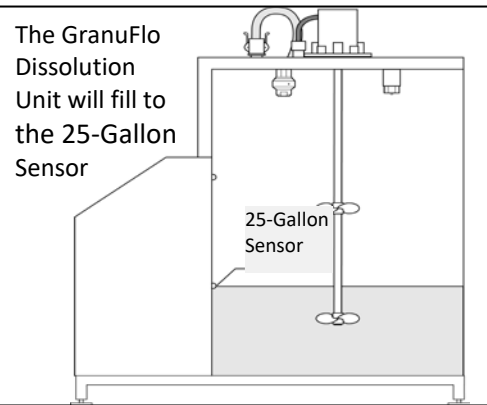

Figure 20
3. Once the 25-Gallon Sensor is reached, the control panel will automatically step to the first RECIRCULATE Operation (figure 20). With your safety glasses on, lift the Access lid and check for correct spray ball operation. See figure 4, page 12, for the illustration of correct or incorrect spray ball operation.